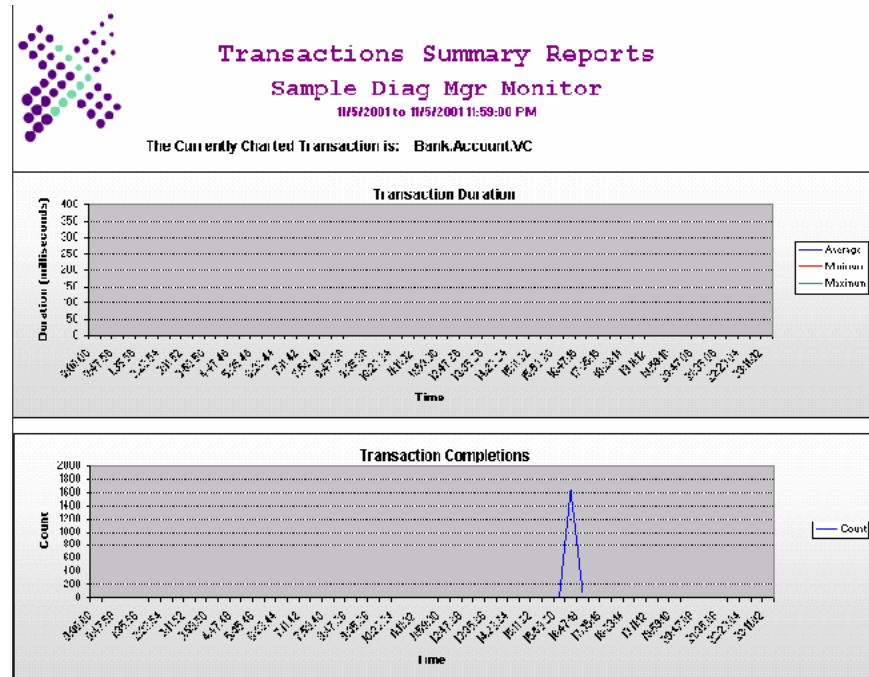

Figure 18
- The next report to view is the **Transactions Report** (see Figure 18).